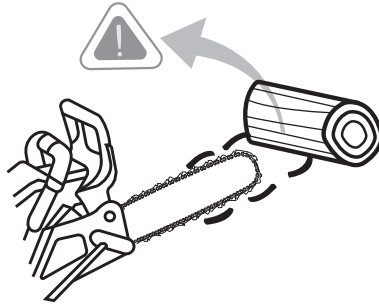

Fig. 3
- DO NOT let the tip of the guide bar contact any object, such as a log, branch, ground or other obstruction. Remove or avoid any obstructions that might impact the tip of the guide bar while cutting (Fig.3).